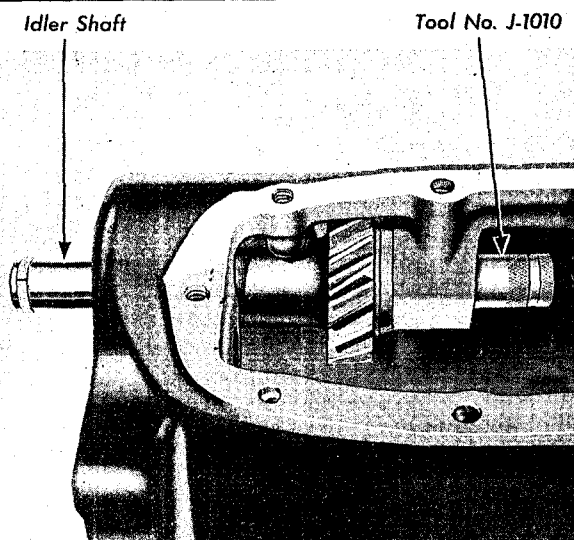

Fig. 25 Installing Reverse Idler Gears
1. Install thrust washers for reverse idler gears, using tool J-1010 to hold forward thrust washer in place during installation, as shown in Plate 57, Fig. 25.